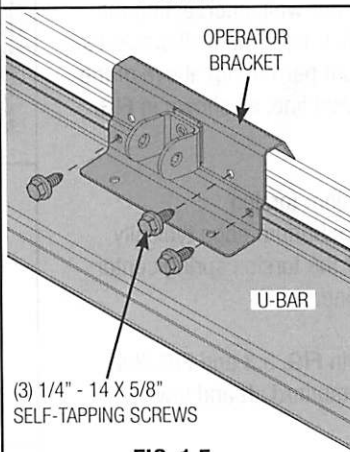

FIG. 1.5
First attach (3) 1/4" - 14 x 5/8" self-tapping screws to the operator bracket, as shown in FIG. 1.5.